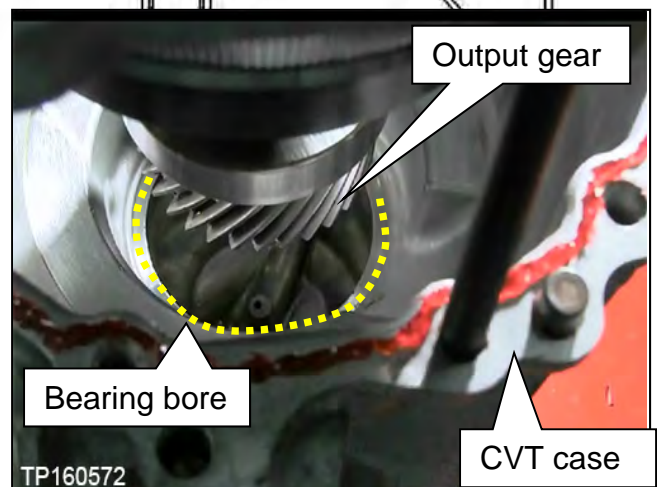

Figure 98
- Look into the bearing bore to confirm the output gear is centered (Figure 98).